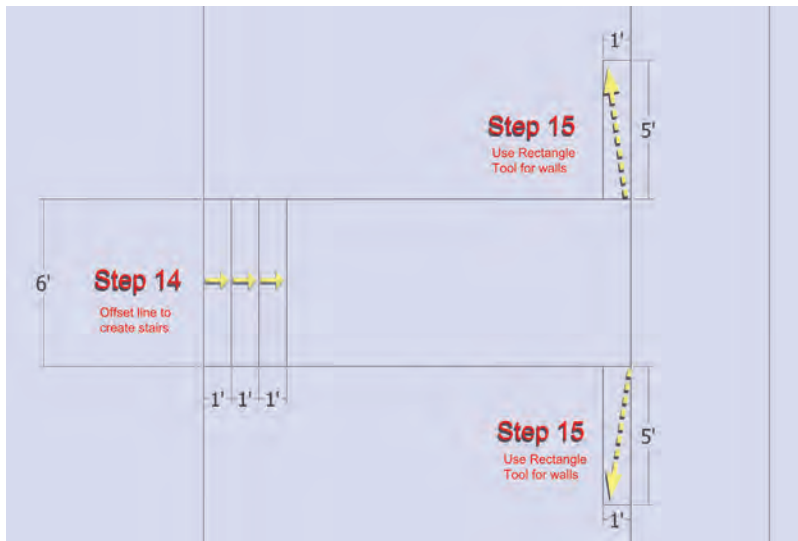

Fig. 6-10: Defining the entry with steps and walls
14. Copy and paste edges to define stairs adjacent to the building footprint (Fig. 6-10).
15. Draft the entry walls (Fig. 6-10).